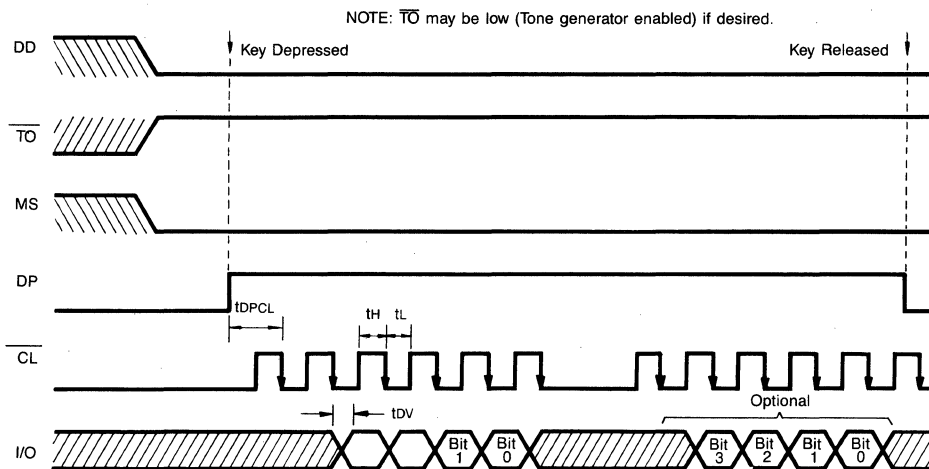

Fig. 10
In the automatic dialing mode, DD is a Logic "1" and the four-bit code is serially entered in the sequence B3, B2, B1, B0 into the four-bit shift register. Thus, only four clock cycles are required to transfer a number into the ETC. The keypad is disabled in this mode. A Logic "1" on the Tone Output (TO) will disable tone outputs until valid data from the microprocessor is in place. Subsequently TO is switched to a Logic "0" to enable the DTMF generator. Figures 10 and 11 show the timing waveforms for the manual and automatic dialing modes and Table 2 specifies timing limitations.